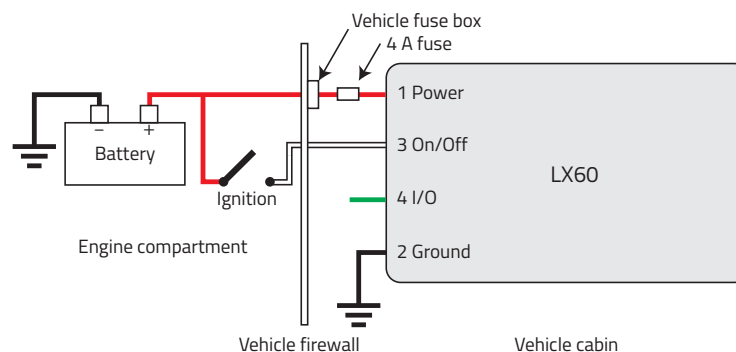

Figure 2-8: Vehicle Installation Option 1
6. Use a 4 A, fast blow fuse, recommended to have no more than $\pm 10\%$ de-rating over the operating temperature range, to connect the red (power) wire on the DC power cable to the vehicle's fuse box. (See Figure 2-8.)